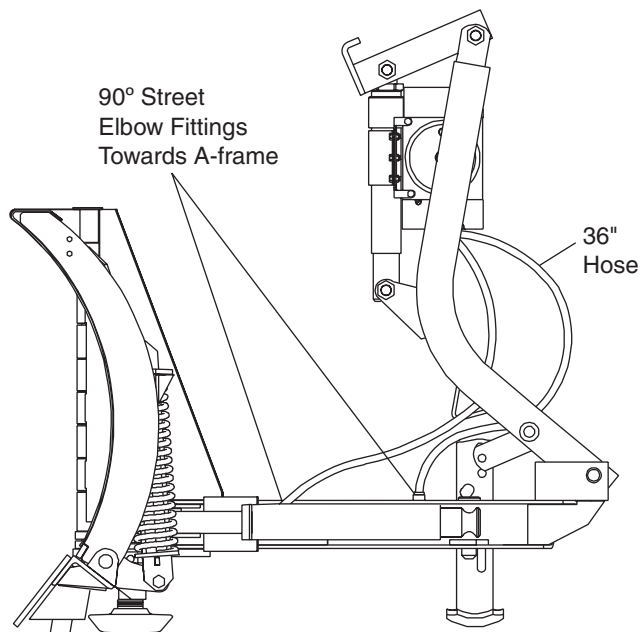

Figure 16
16. Attach a 36" hose to the fitting on the base end of each ram. (See Figure 16.)
17. Route base end hoses in front of the lift frame to avoid pinched hoses. (See Figures 16 and 17.)